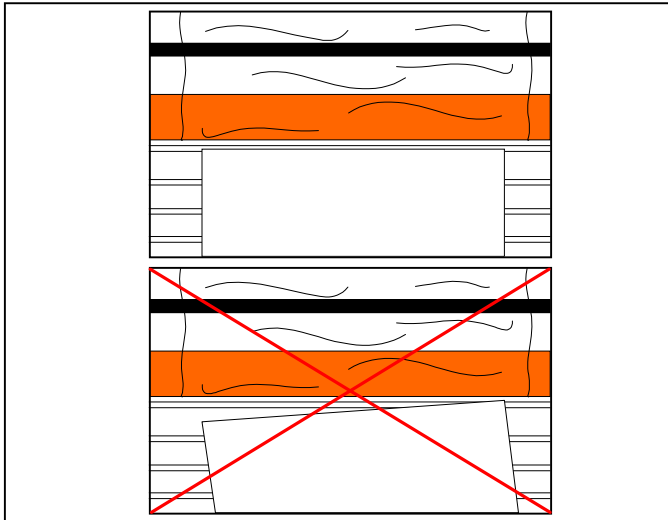

Fig. 31
9. Align the leading edge of the item square to the heat roller nip (Figure 31).